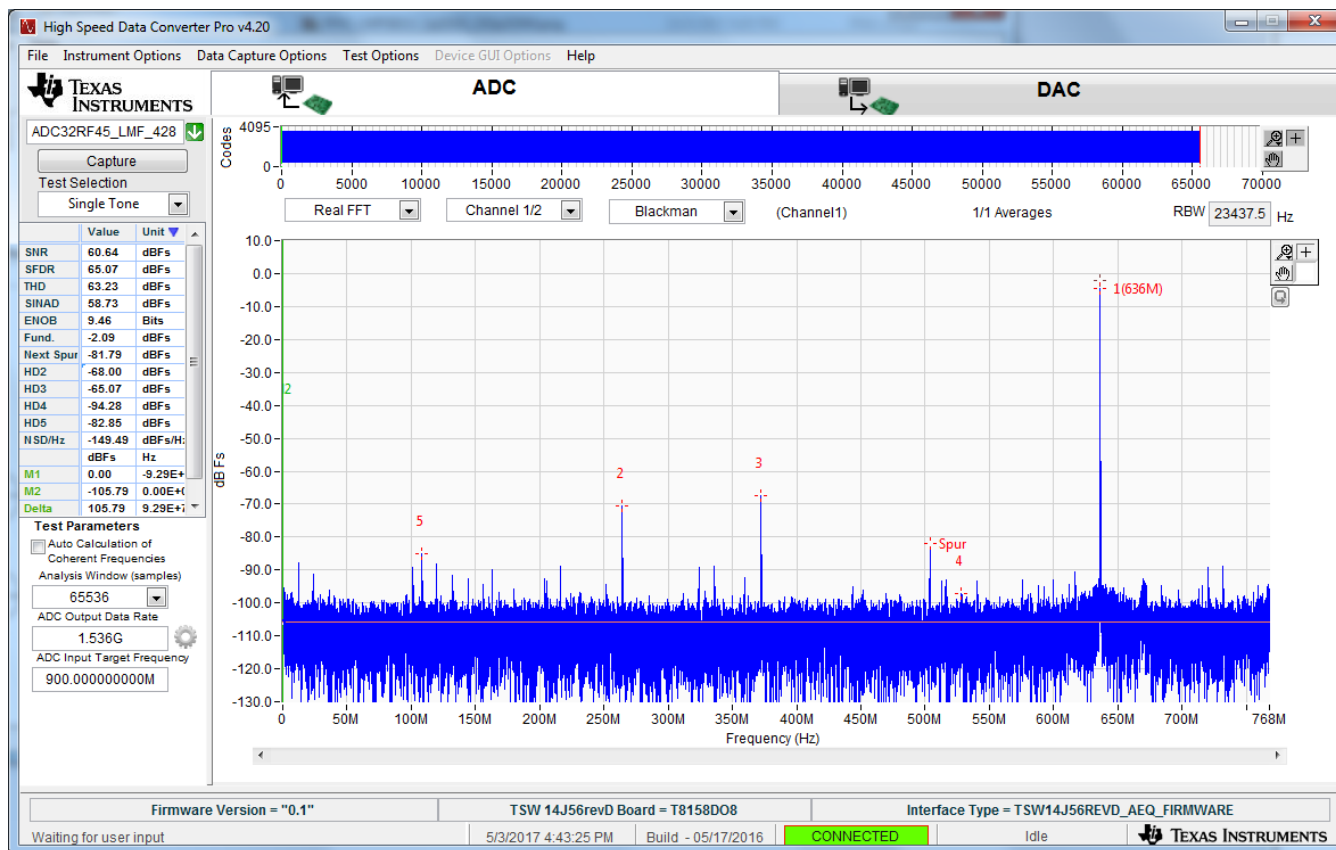

Figure 33. Example Capture from Channel A – LMFS42810 Mode
10. The result should match the example capture in Figure 33.